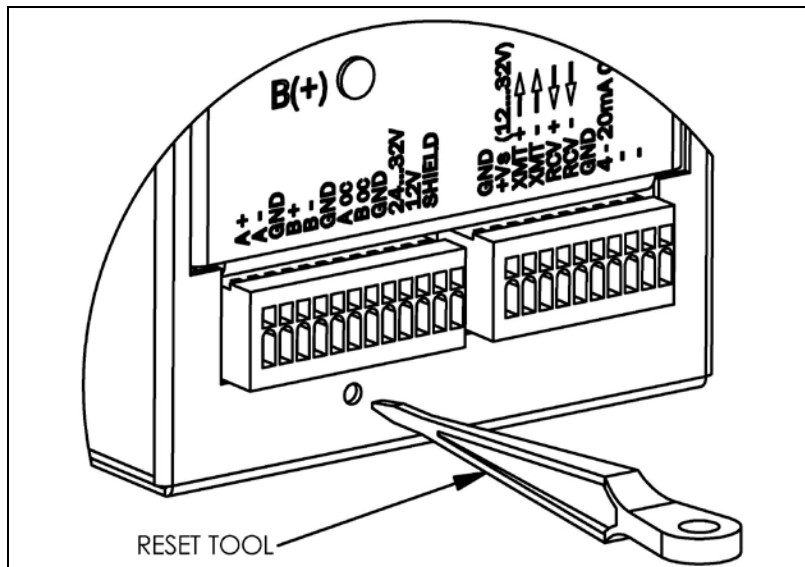

Figure 12. How to Manually Reset the Controller Module With WAGO Tool.
- STEP 2: While rotating shaft, momentarily depress the Reset button as shown in Figure 12